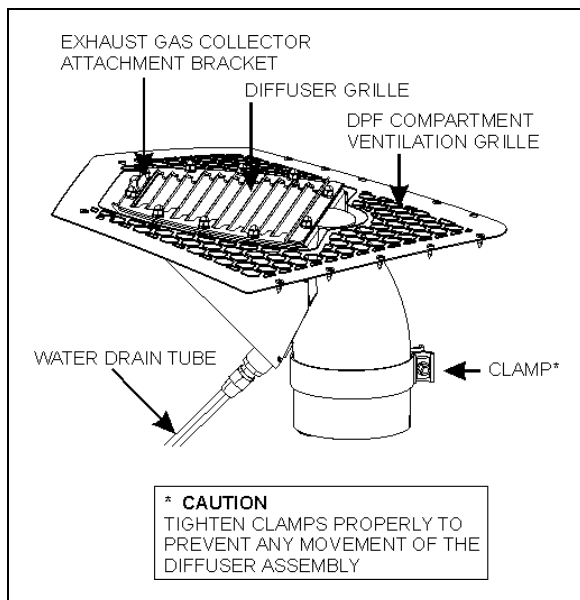
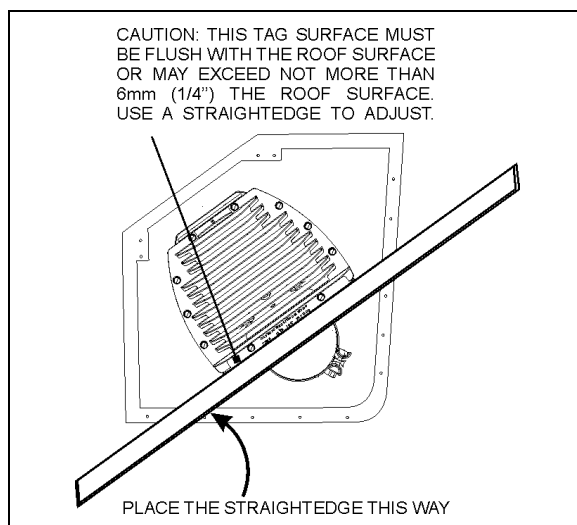

FIGURE 9: DIFFUSER ASSEMBLY
FIGURE 11: DIFFUSER POSITION ADJUSTMENT 04015\_2
- Using a straightedge, adjust the diffuser assembly level. The top surface of the tag fixed on the diffuser grille must be flush with the roof surface (fig.9). It may exceed about 1/4in (6mm). Place the straightedge as shown on figure 11.